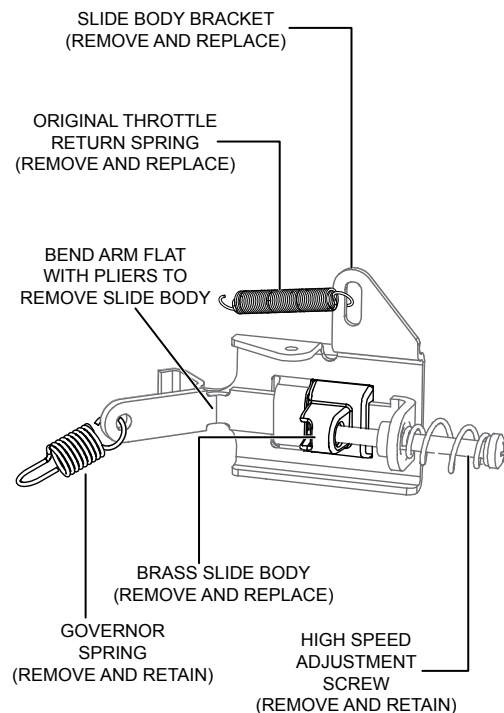

Figure 10. Slide Body Removal
- Using gentle pressure, remove (slide forward) the **brass slide body** (P/N 30083) from the slide body bracket as shown in Figure 10.